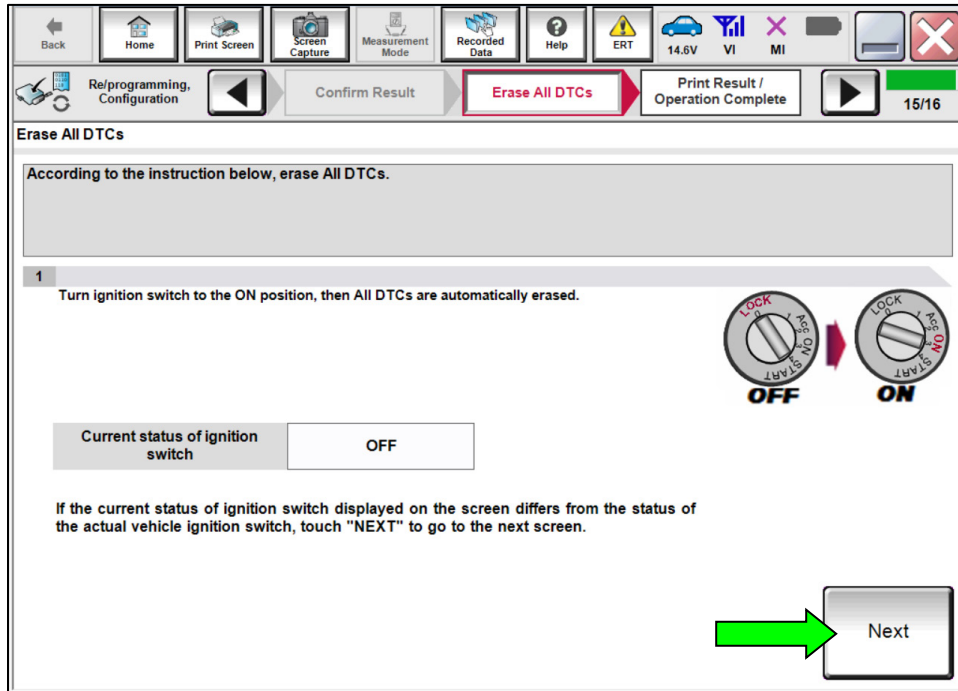

Figure 18
26. Press the power switch two (2) times to turn the EV system back ON (Figure 18).